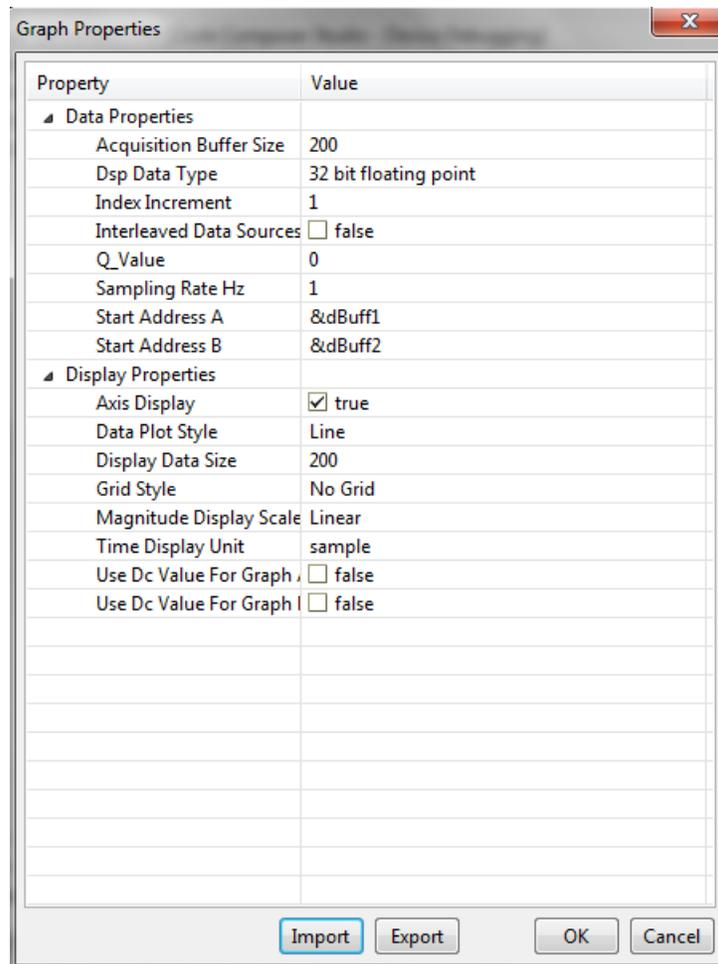

图 23. Graph Settings
- Alternatively, the user can enter the values as shown in 图 23.